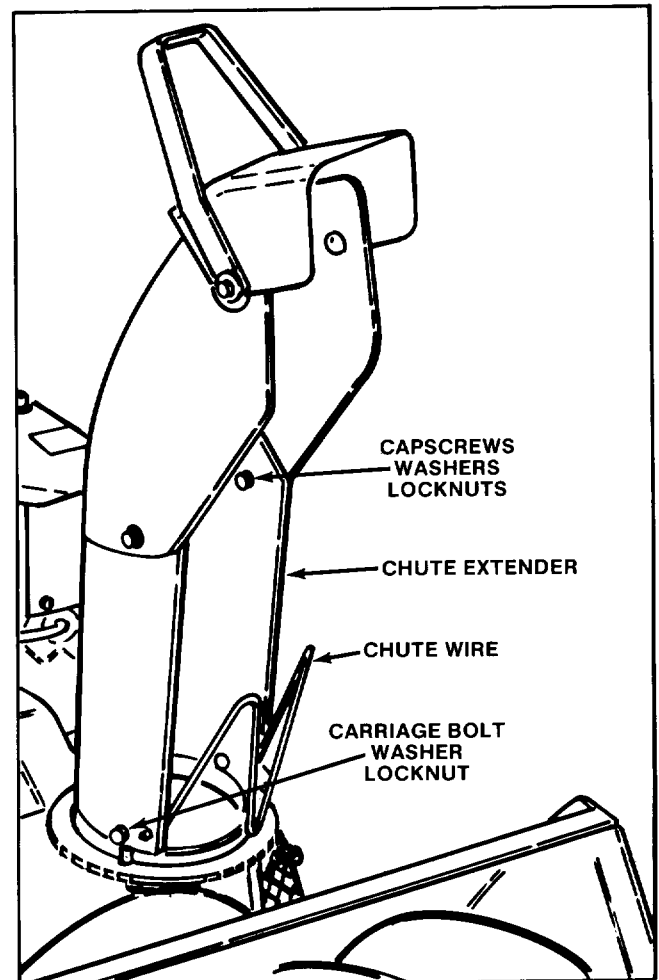

Figure 2
3. Using carriage bolts, washers, and locknuts removed in step 1, secure chute extender to swivel plate. (Fig. 2)
4. Secure chute to chute extender with capscrews, washers, and locknuts supplied in kit. (Fig. 2)
5. Reinstall chute wire in holes provided in chute extender and secure with new pushnuts. (Fig. 2)